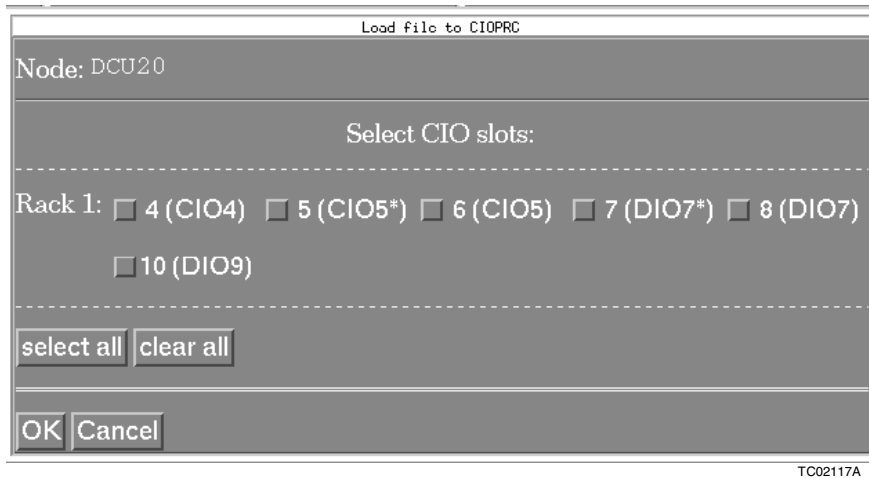

Figure 6-3. Load Program File Selection Window (Redundant DIO Boards)
4. Click **load**. A window will open similar to Figure 6-3.
The window displays all racks, and slots in the Harmony DCU containing CIO and DIO boards. The logical address of the CIO and DIO boards are displayed in parentheses after the slot number. In the example shown in Figure 6-3, the logical address is the same for the two DIO boards in slots seven and eight. The asterisk displayed after the logical address for the board in slot seven is an indication of which board is the primary DIO board.